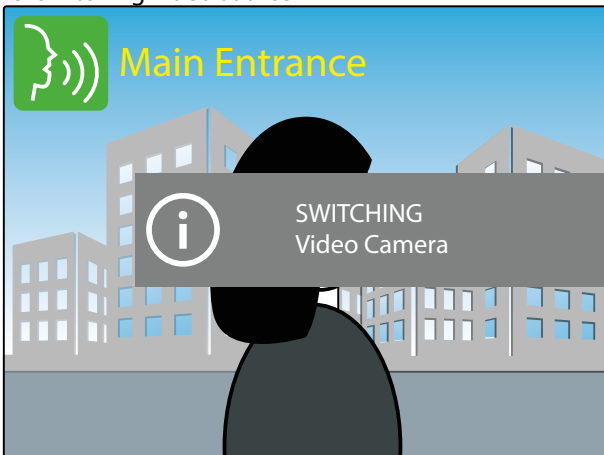

Fig. 45 Switching video source
- To switch again the video source proceed as described at the first step above (Fig. 45).